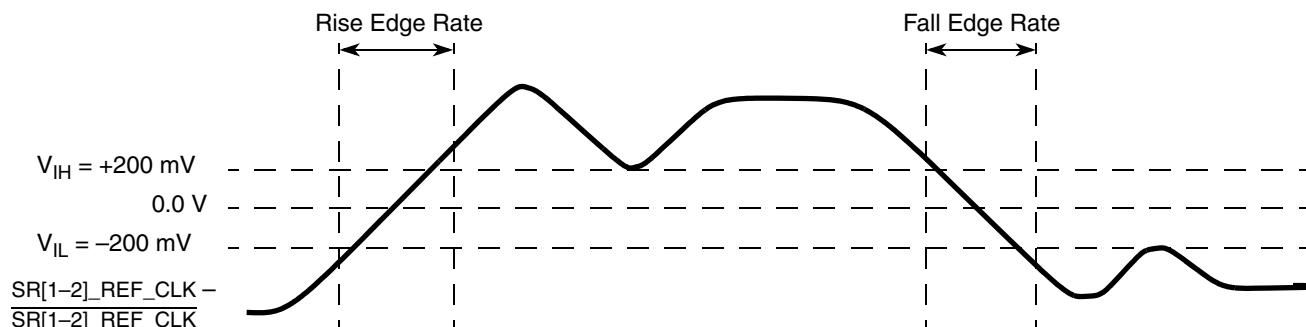

Figure 16. Differential Measurement Points for Rise and Fall Time
3.	Measured from -200 mV to +200 mV on the differential waveform (derived from SR[1-2]_REF_CLK minus SR[1-2]_REF_CLK). The signal must be monotonic through the measurement region for rise and fall time. The 400 mV measurement window is centered on the differential zero crossing. See Figure 16 .